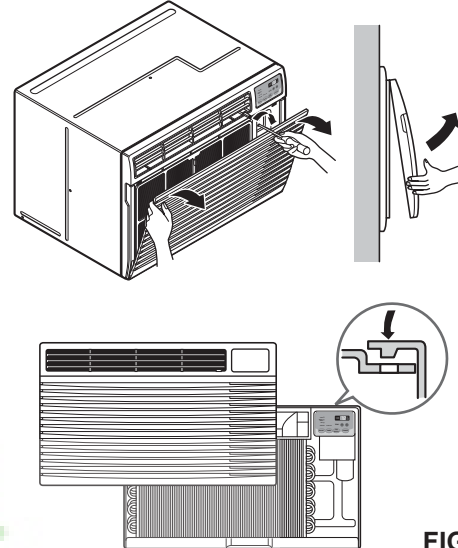

FIG. 1
4. Remove the front grille. (See Fig. 1)